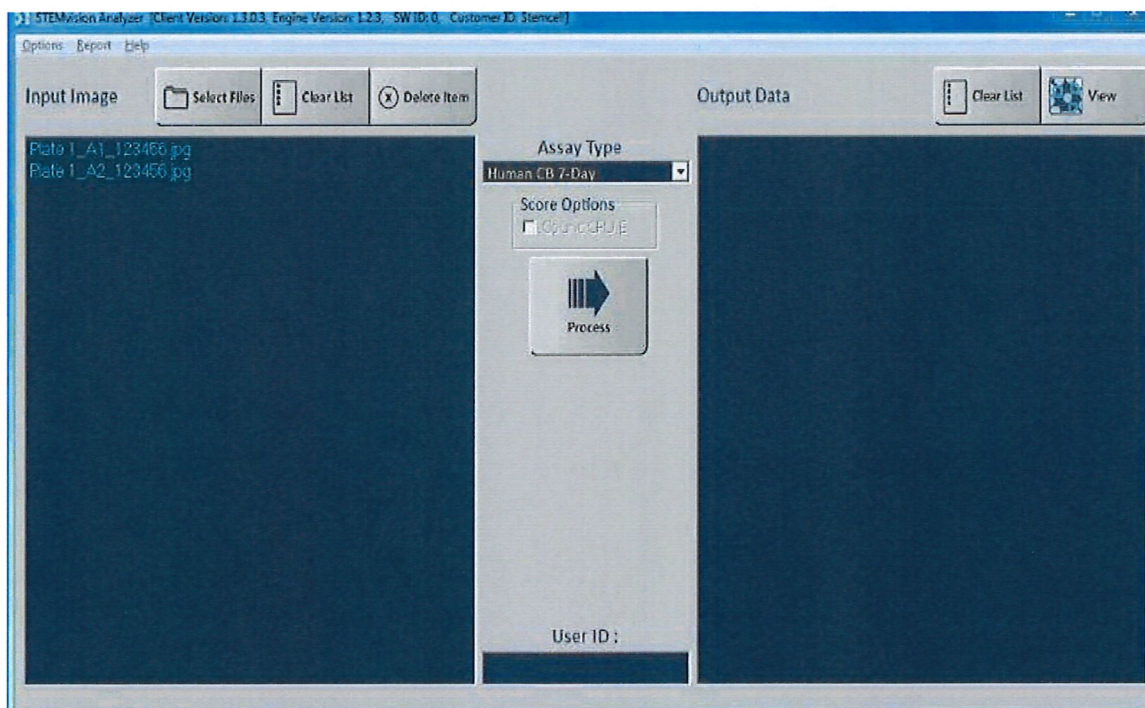

Figure 7
- 8.8.2.1 Click the “Select Files” button and then browse and select the sub-folder that contains the images to be analyzed. All acquired image files in the selected folder will appear under the “Input Image” field. See **Figure 7**.
- 8.8.3 Select CB for “Assay Type”, Day-14 for day of scoring and without EPO for assay condition from the drop-down menu. See Figure 7.
- 8.8.4 Click the “Process” button to start data analysis. A progress window will show the images being analyzed and their progress. See **Figure 7**.